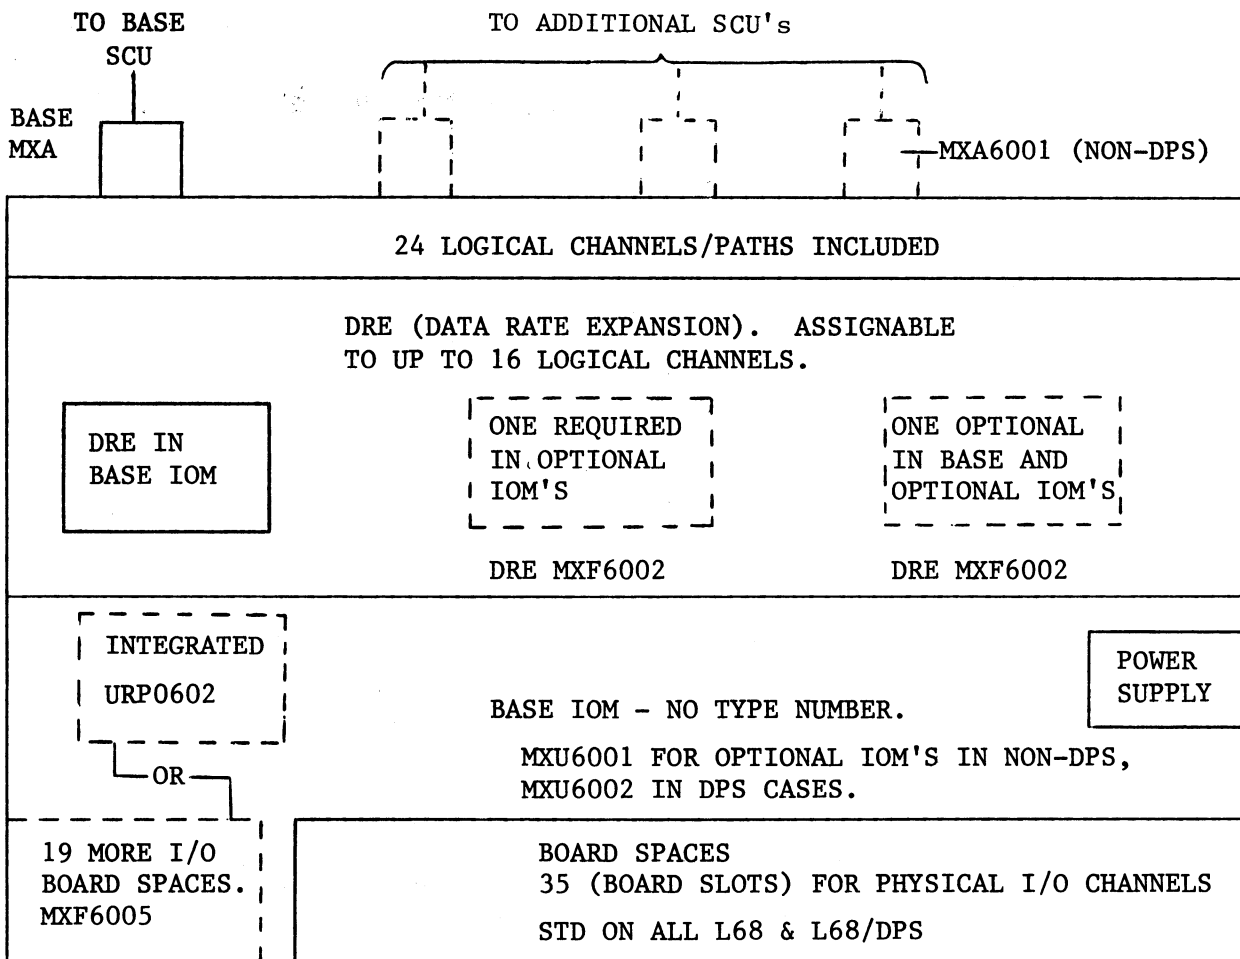

Figure 4-1. Block Diagram of Freestanding IOMs
1. The base IOM (freestanding systems) has no type number. All IOMs configured selectively beyond the base IOM are freestanding. The chart in Figure 4-1 applies to all freestanding IOMs.